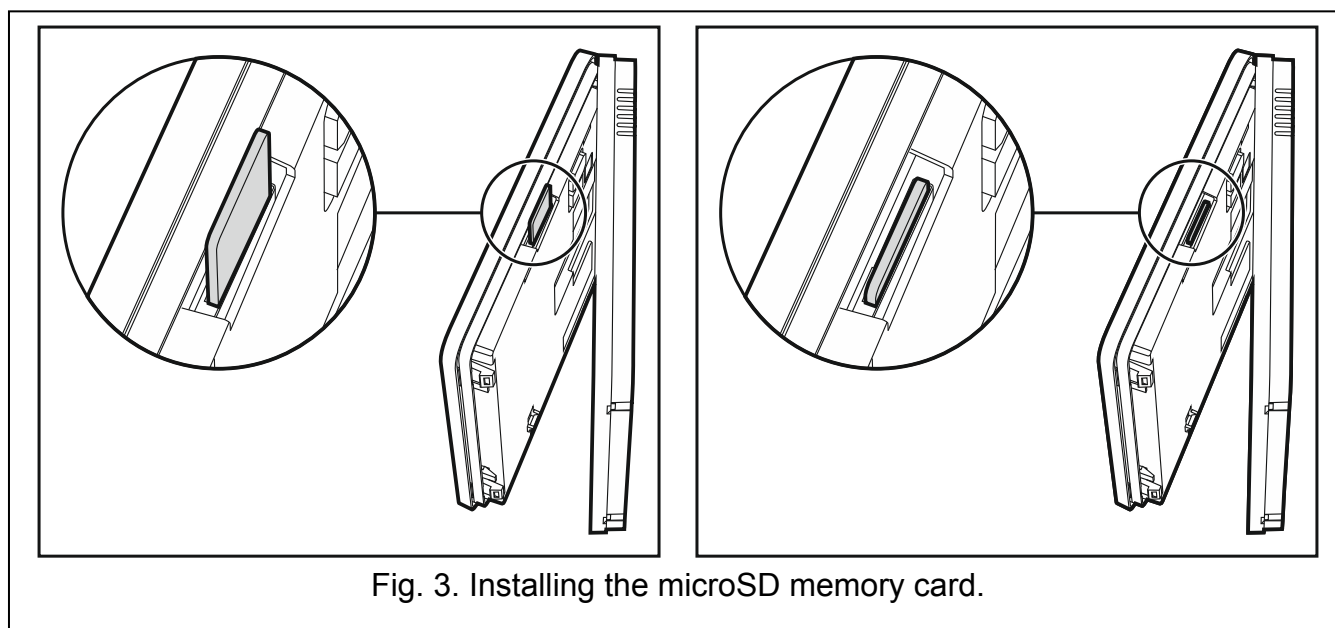

Fig. 3. Installing the microSD memory card.
2. Insert the card into its slot (see Fig. 3) and push until it clicks into place. The card contacts should be directed toward the display.